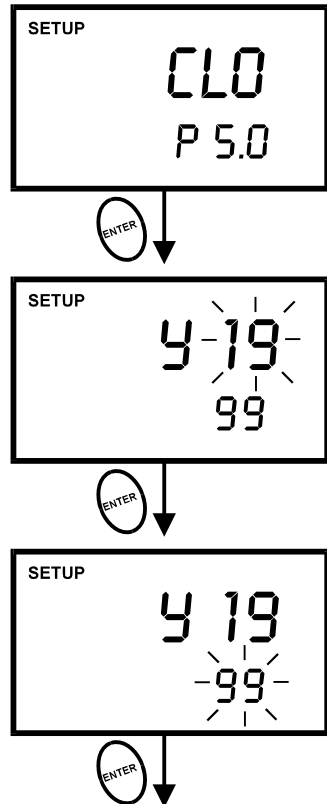

Figure 34 - P5.0: Setting century and year (pH 310 meter only)
6. Press the MI/▲ or MR/▼ keys to toggle to the correct year. See Figure 34.